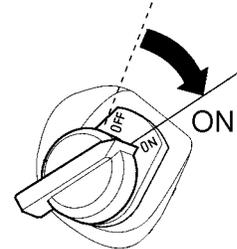

Figure 13. Engine ON/OFF Switch (ON)
4. Place the engine ON/OFF switch (Figure 13) in the **ON** position.